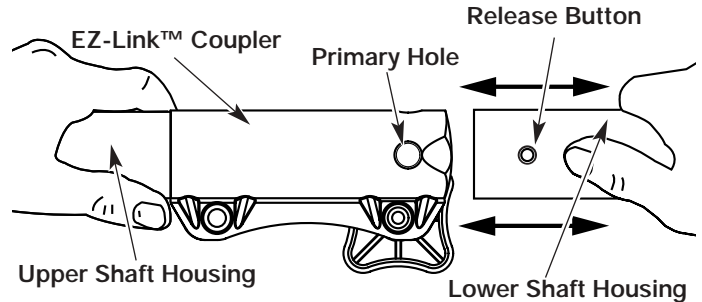

Fig. 24
3. While firmly holding the upper shaft housing, pull the cutting attachment or add-on straight out of the EZ-Link™ coupler (Fig. 24).
2. While firmly holding the add-on, push it straight into the EZ-Link™ coupler (Fig. 24).
**CAUTION:** Lock the release button in the primary hole (Fig. 24) and securely tighten the knob before operating this unit.